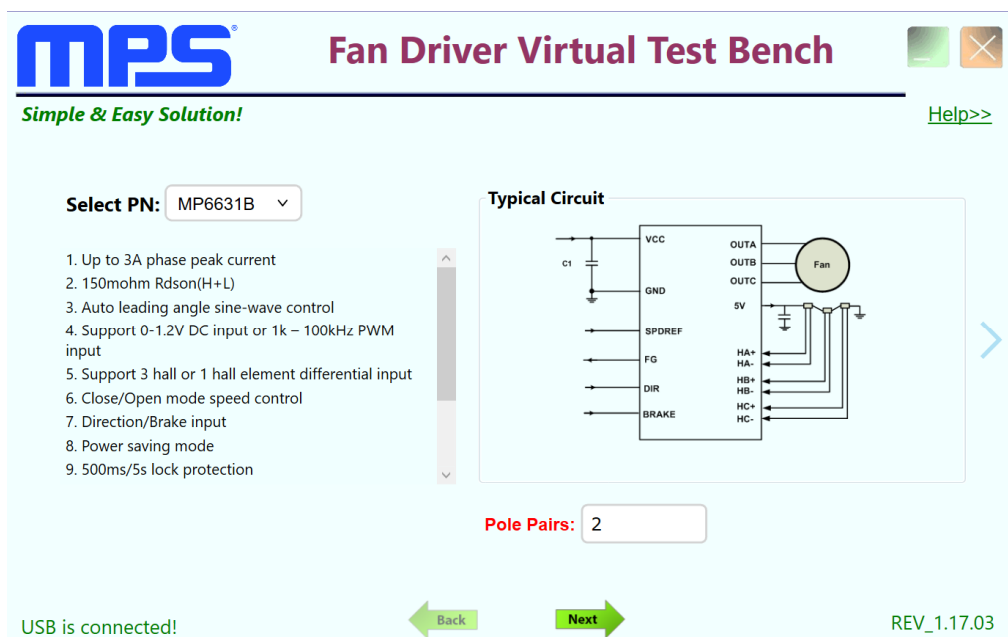

Figure 7: MPS BLDC Virtual Bench GUI
2. Double-click “MP6631B.exe” to start the GUI. The first page of the GUI should show the features and typical application circuit (see Figure 7).